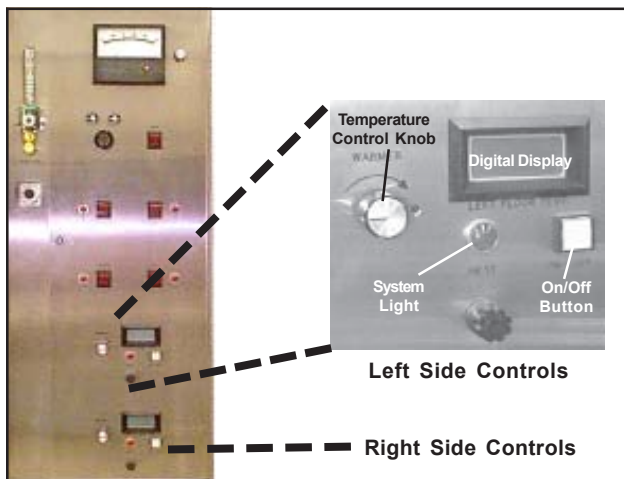

Figure 55. Floor Temperature Controls (Left Shown, Right Identical)
2. Press the appropriate heated floor on/off button (Figure 55). The amber light in the button comes on.